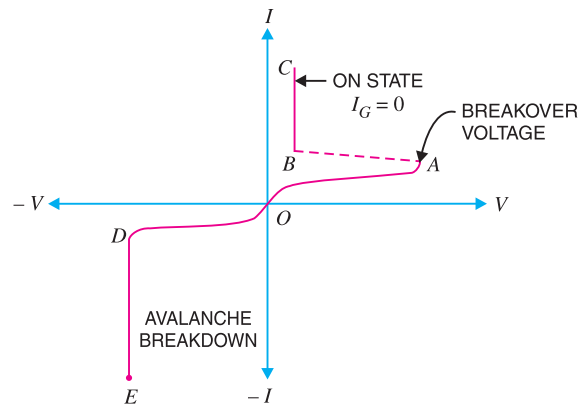

Fig. 20.7
It is the curve between anode-cathode voltage (V) and anode current (I) of an SCR at constant gate current. Fig. 20.7 shows the V-I characteristics of a typical SCR.
(i) **Forward characteristics.** When anode is positive *w.r.t.* cathode, the curve between V and I is called the forward characteristic. In Fig. 20.7, OABC is the forward characteristic of SCR at  $I_G = 0$ . If the supply voltage is increased from zero, a point is reached (point A) when the SCR starts conducting. Under this condition, the voltage across SCR suddenly drops as shown by dotted curve AB and most of supply voltage appears across the load resistance  $R_L$ . If proper gate current is made to flow, SCR can close at much smaller supply voltage.